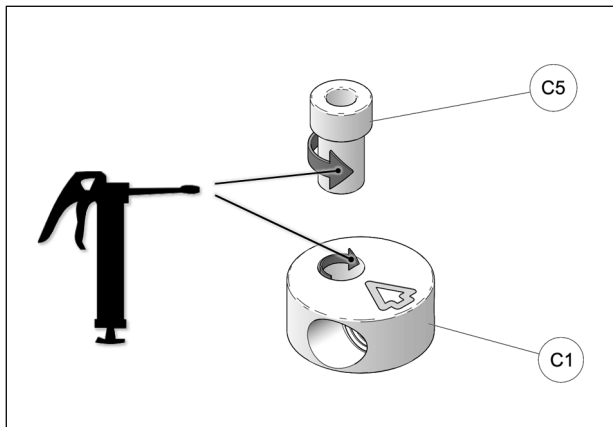

Fig. 18
10. Apply grease evenly all around step spacer bushing (C5) and in hole of aluminum disk (C1) when assembling these parts together. See Fig. 18